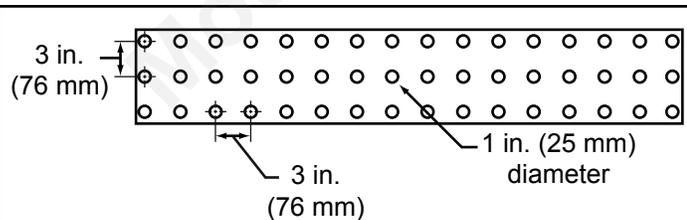

Figure 7.3 Apply Construction Adhesive to Back of Hearth
- Turn the hearth over. Apply 1 in. (25mm) diameter 1/4 in. (6 mm) thick pads of construction adhesive on 3 in. (76 mm) centers across the entire back side of the hearth. See Figure 7.3.